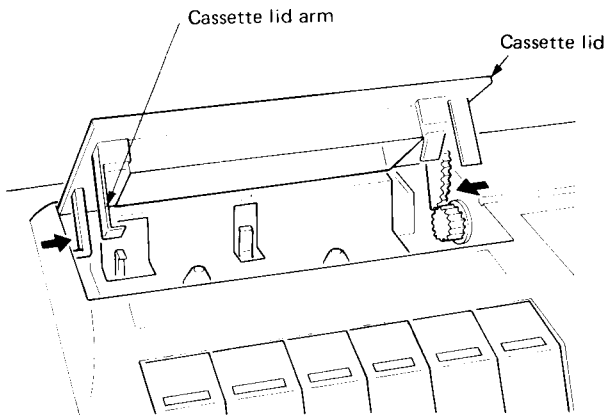

Fig. 1
1. Cassette Lid (For Only Cassette Lid Assembly) (Fig. 1)